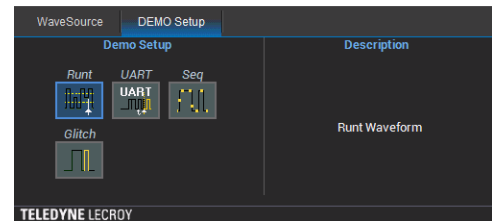

Figure 13: The DEMO Setup tab contains a number of preset waveforms
- From the DEMO Setup tab (see Figure 13), select the **Runt** waveform and close the WaveSource dialog box
- From the DEMO Setup tab (see Figure 13), select the **Glitch** waveform and close the WaveSource dialog box
- From the DEMO Setup tab (see Figure 13), select the **Seq** waveform and close the WaveSource dialog box